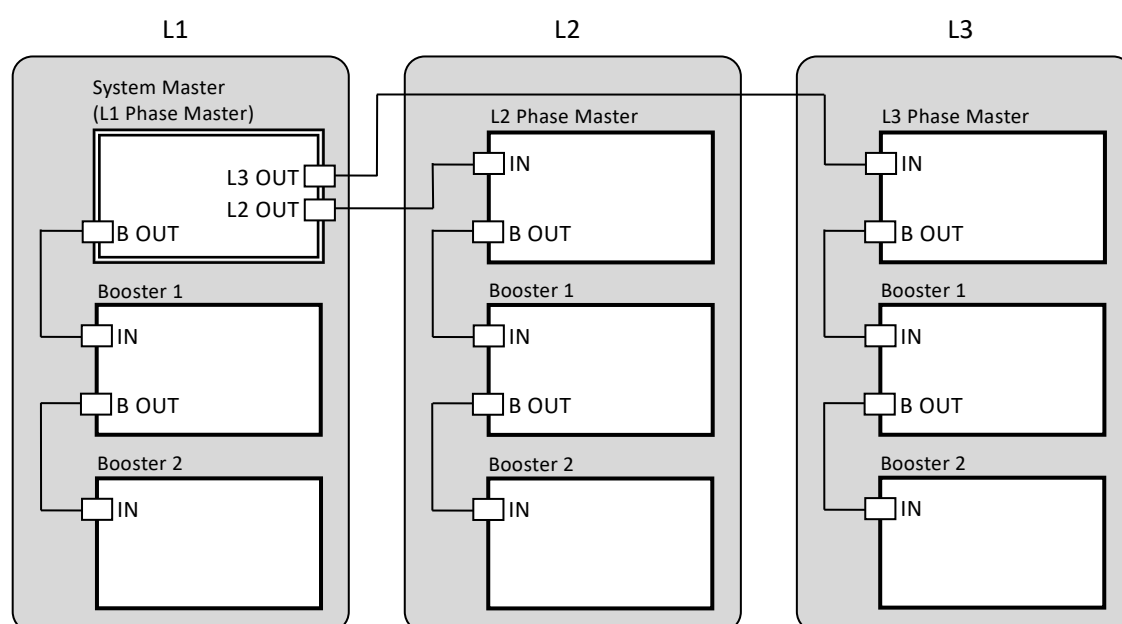

Figure 10-1 Maximum system configuration *1
- *7: “N” represents the number of units configured for the entire system, and “B” represents the number of boost-up units for each phase. The range of “N” is from 2 to 9 units, and the range of “B” is from 0 to 2 units. See *Figure 10-1*.
- *15: “N” represents the number of units configured for the entire system, and “B” represents the number of boost-up units for each phase. The range of “N” is from 2 to 9 units, and the range of “B” is from 0 to 2 units. See *Figure 10-1*.